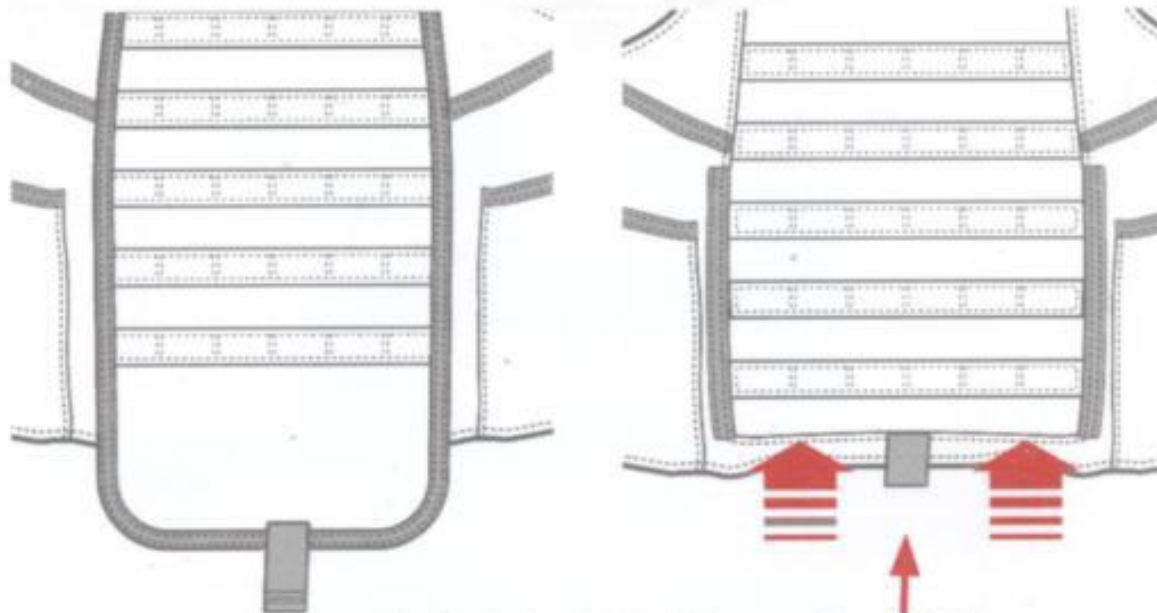

Fig. 30. Closing the Back Flap. Leave Tab Out
4. Close and attach the Back Flap to hook and pile strips, and tuck the bottom of the Back Flap up into the Back Flap Pocket as shown in **Fig. 30**.